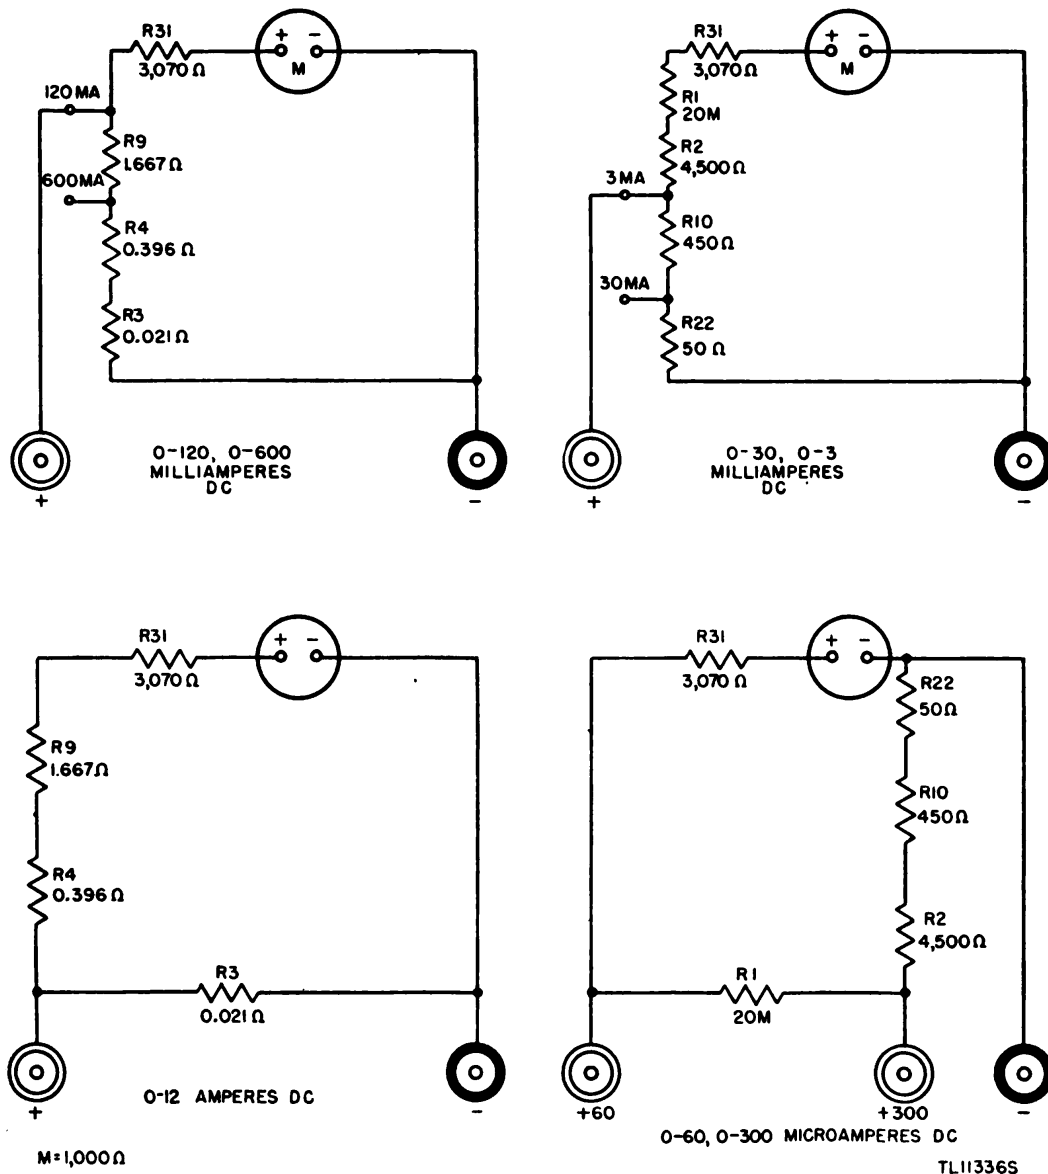

Figure 10. Simplified schematic of d-c current measuring circuits.
d. Test Set as a Milliammeter (fig. 10). By using the current positions of the range selector switch, current as high as 600 ma can be read. This is accomplished by switching in resistors in shunt to the meter. The extremely high and low ranges of current are read in a similar manner except that the connections to the meter are brought out to special terminals.